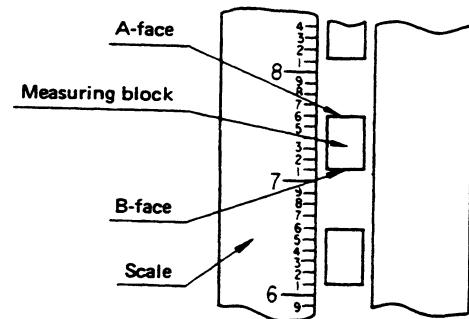

Fig. 13 Reading on Reference Scale to 1"
* In case of model 515-310, the lower face of the block must be measured up to .1" by the reference scale. In Fig. 13, B-face is measured as 7.1" by the reference scale.
* B-face in Fig. 13 is measured as